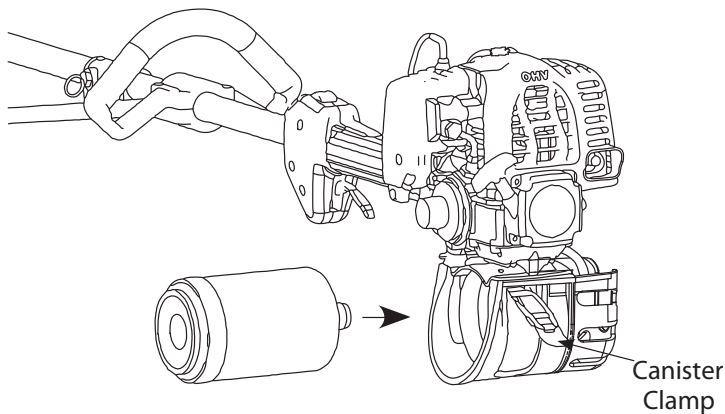
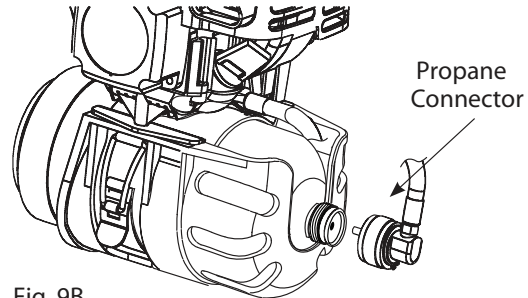

Fig. 9A
Fig. 9B
3. Insert the threaded end of the propane canister into the clamp as far as it will go (Fig. 9A). Insert the propane connector onto the threaded end of the canister and screw it onto threads clockwise (Fig. 9B). Screw it until snug. Do not over tighten. It may be normal to hear or smell a slight momentary leak of propane as the connector is being screwed in. Make sure that the connector is installed tight enough that any leakage stops. Hand tight is sufficient. Slide canister back so all of fuel line components are behind the guard and latch the canister clamp.